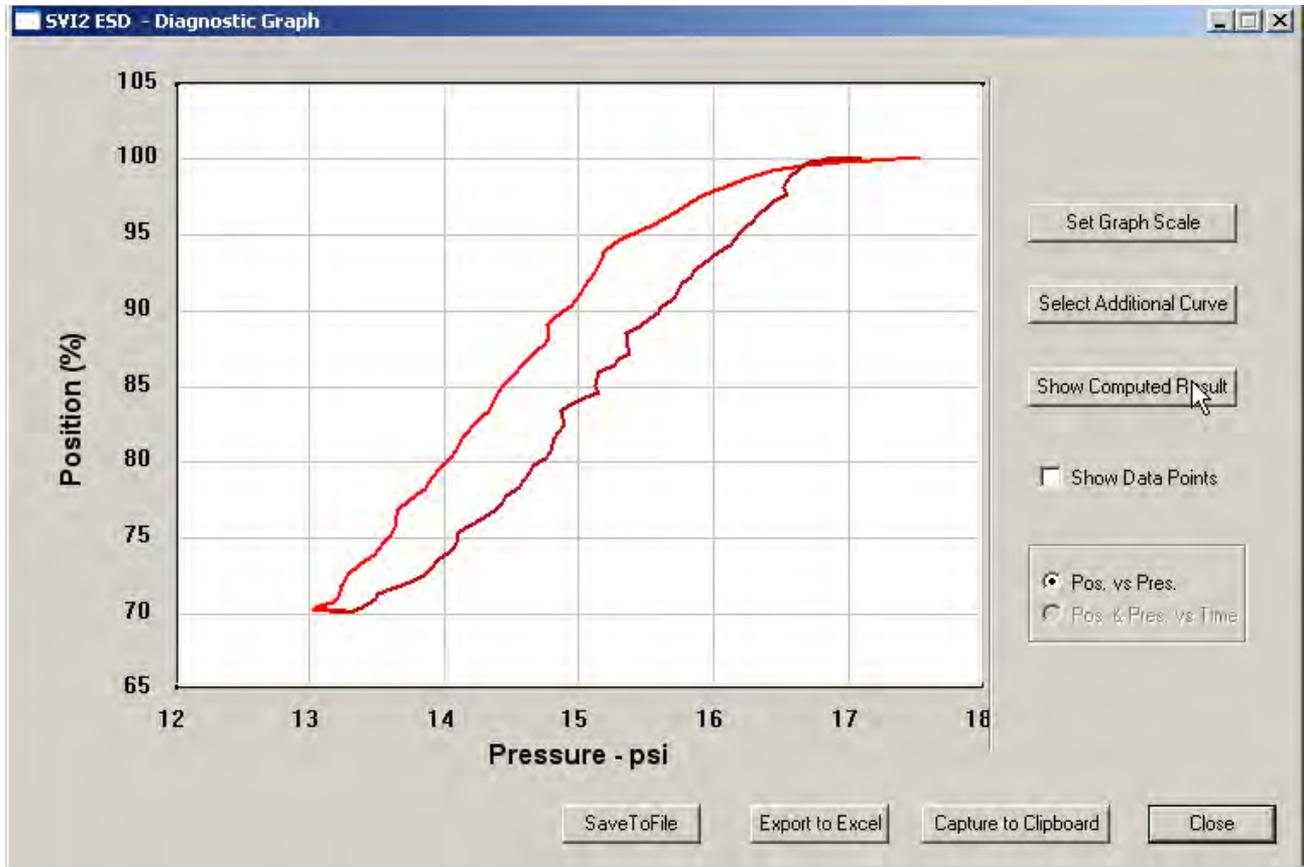

Figure 220 Selecting Show Computed Result
- Click **Show Computed Result** (Figure 220).